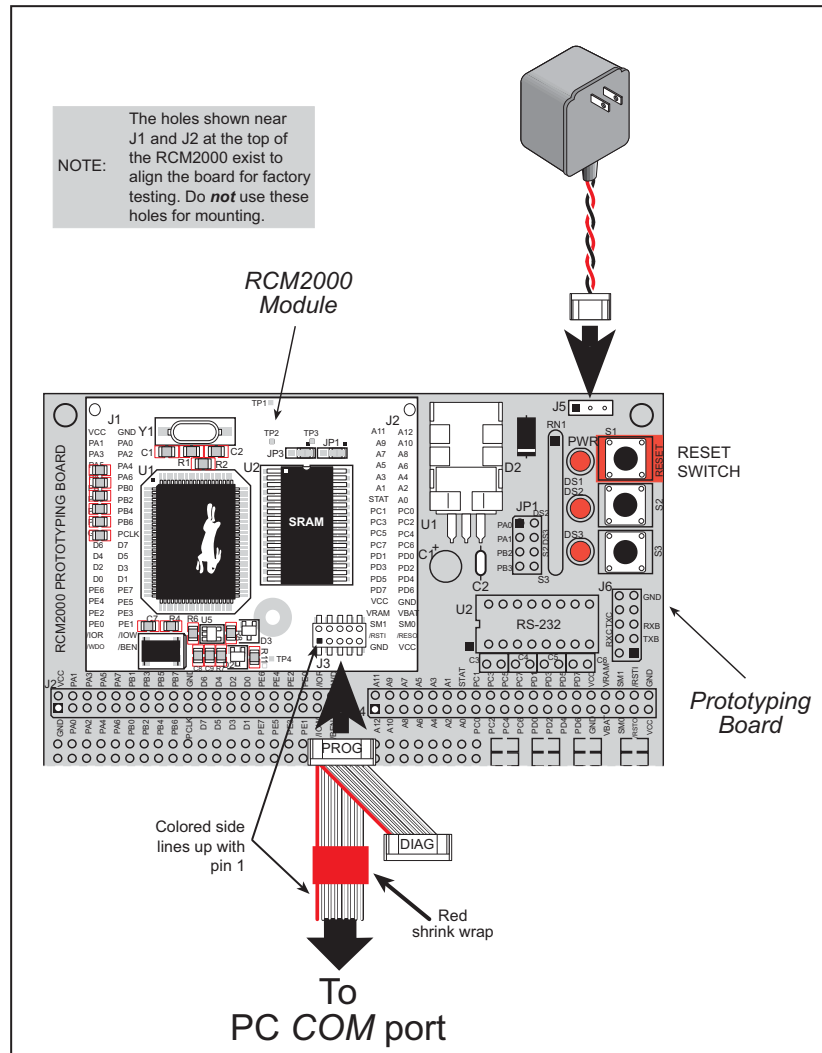

Figure 2. RCM2000 Power and Programming Connections
Connect the 10-pin connector of the programming cable labeled **PROG** to header J3 on the RCM2000 module as shown in Figure 2 below. Be sure to orient the red edge of the cable towards pin 1 of the connector. (Do not use the **DIAG** connector, which is used for a normal serial connection.)
When all other connections have been made, you can connect power to the Prototyping Board. Connect the wall transformer to 3-pin header J5 on the Prototyping Board as shown in Figure 2. The connector may be attached either way as long as it is not offset to one side.
- The programming cable must be connected to the RCM2000. (The colored wire on the programming cable is closest to pin 1 on header J3 on the RCM2000, as shown in Figure 2.) The other end of the programming cable must be connected to the PC serial port. The COM port specified in the Dynamic C **Options** menu must be the same as the one the programming cable is connected to.